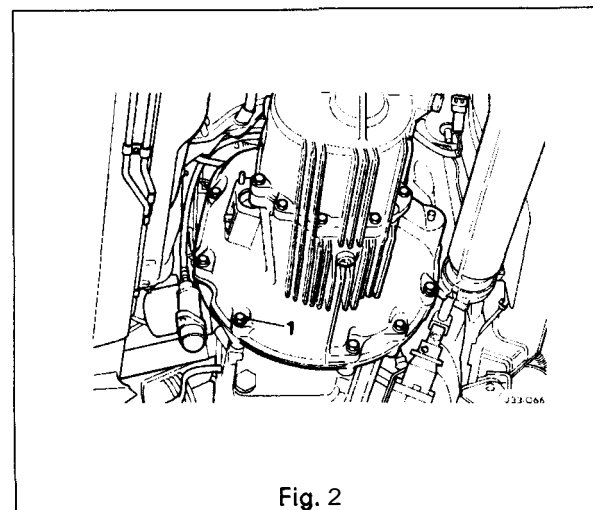

Fig. 2
- Remove the transmission to engine adaptor plate securing bolts (1 Fig. 2).